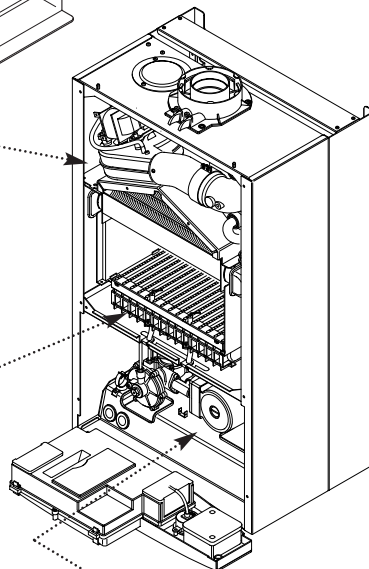

Fig. 58
12. Undo the screws securing the burner to the injector manifold. Draw the burner out of the combustion box, pulling the electrode grommets from the slots in the combustion box lower panel (Fig. 58).
13. Disconnect the electrode leads and grommets from the electrodes. Completely remove the burner (Fig. 58).